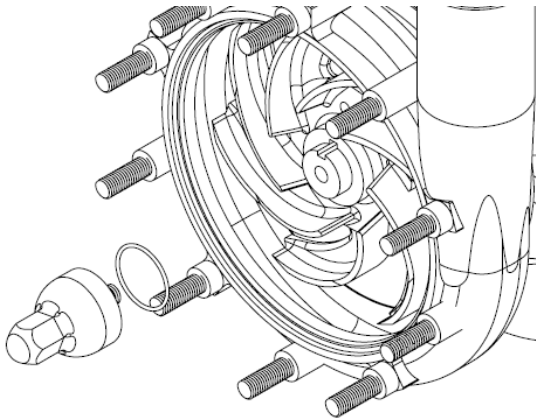

Figure 19
10. Lubricate the impeller screw gasket and place it on the impeller screw. Start to thread the impeller nut onto the motor shaft by hand. Figure 19.